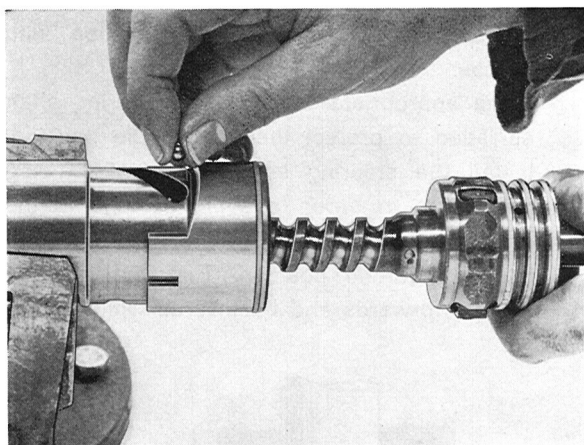

Fig. 6-92. Inserting balls
7. Clamp the piston between soft jaws in a vise. Slide the sleeve (24) onto the worm. Insert the worm far enough into the front piston bore that its top comes opposite the first recess for the pipe half. Fill the bore (Fig. 6-92) with